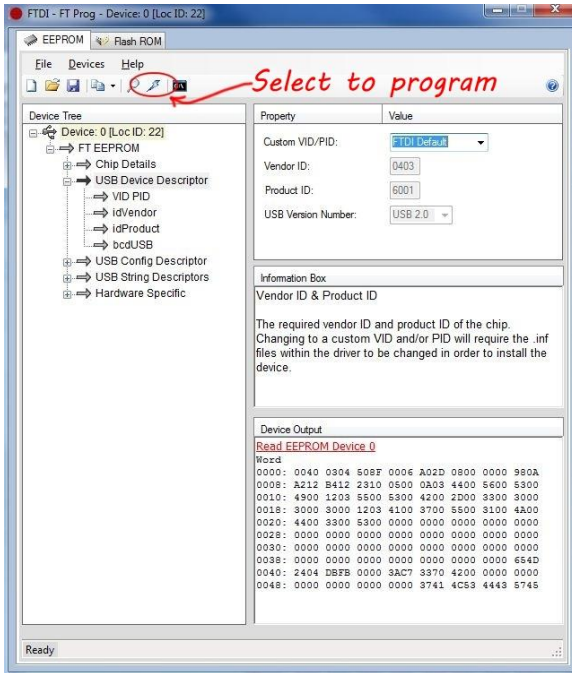

Figure 28 Program default settings to device
Step 7. To set the Product ID value onto the USB-3000™ select the program icon (the lightning bolt in the toolbar). See Figure 28 Program default settings to device